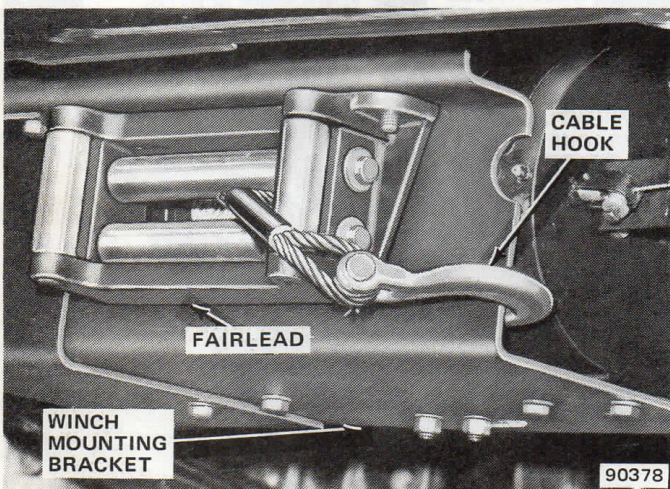
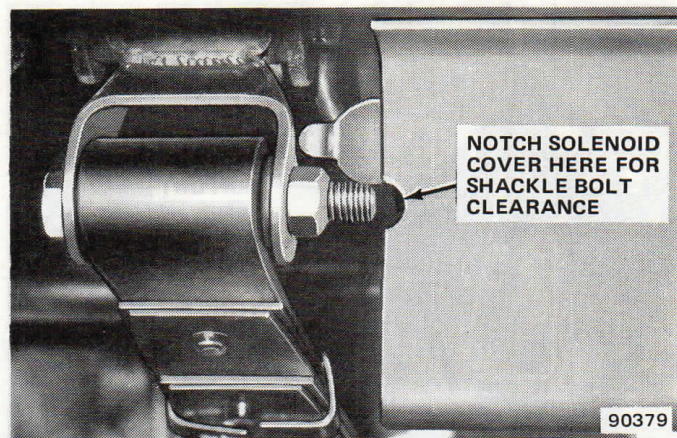

Fig. 5-22 Securing Cable Hook
Fig. 5-23 Notching Solenoid Cover for Shackle Bolt Clearance
(36) Wind remaining length of cable onto winch applying as much tension to cable as possible. Stop winding cable when approximately 18 inches of cable still extends past fairlead. Position cable hook on winch mounting bracket (fig. 5-22), and operate winch until cable and hook are snug.
(37) Raise vehicle.
(38) Notch solenoid cover for spring shackle bolt clearance as follows (fig. 5-23). Mark cover area to be notched (fig. 5-23). Remove cover. Notch cover using grinder. Install cover and tighten cover attaching bolts to 18 foot-pounds (24 N•m) torque.
(39) Lower vehicle.